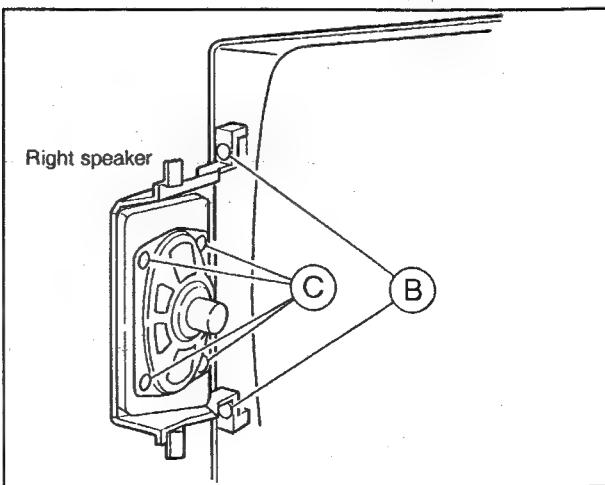

Fig. 3
- Take out 2 screws Ⓑ indicated in Fig. 3.
※ Fig. 3 indicates only the right speaker. Remove the left speaker in the same manner.